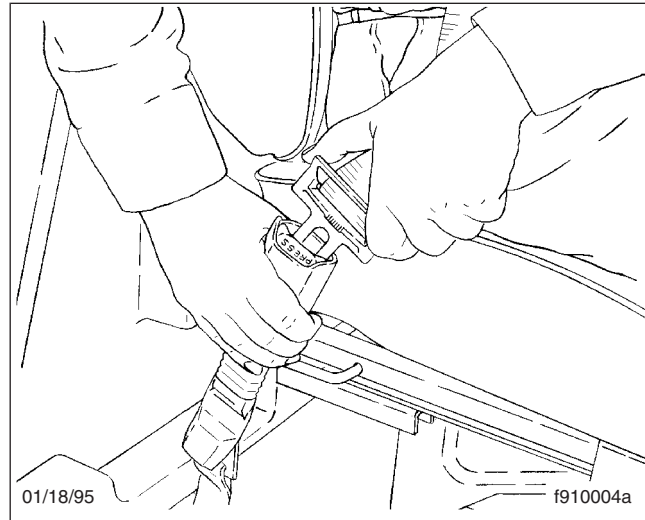

Fig. 7.7, Fastening the Three-Point Belt
2. Fasten the three-point seat belt by pushing the link into the buckle until it latches (**Fig. 7.7**). Give the belt a tug at the buckle. If the buckle unlatches, repeat this step. If the problem continues, replace the three-point seat belt.
2. Fasten the three-point seat belt by pushing the latch into the buckle. Listen for an audible click. See Fig. 7.7.